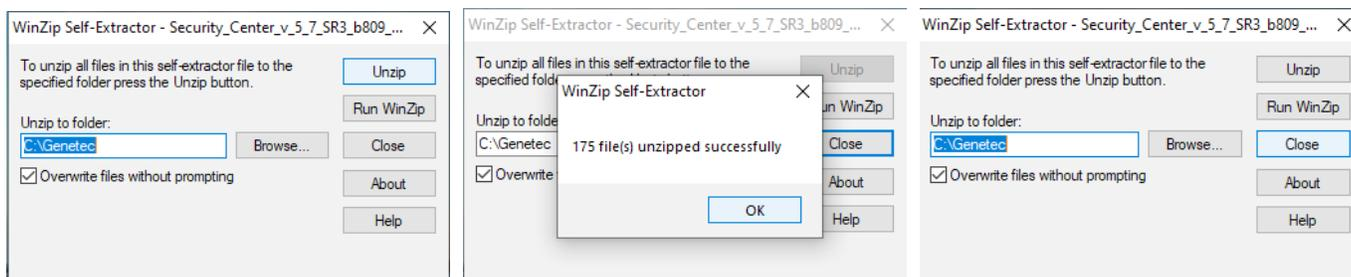

Figure 9
11. Choose a location for the files and click Unzip. When finished, click OK, then Close (Figure 9).